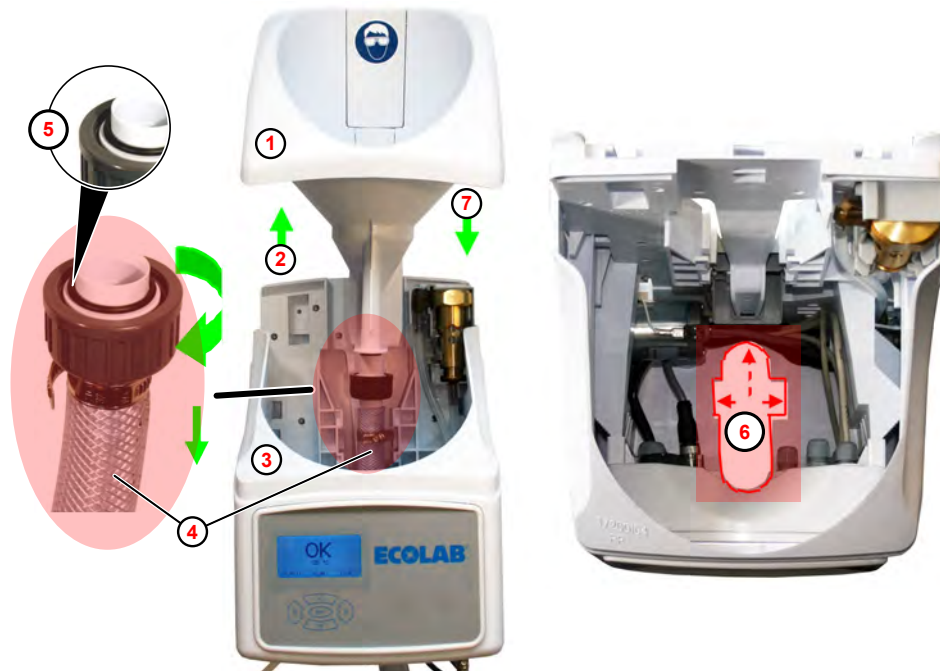

Fig. 16: Removing the funnel
1. ➤ Pull funnel (Fig. 16 , ①) upwards and out ② .
2. ➤ Pull the funnel and outlet hose ④ upwards out of the housing.
4. ➤ Clean the O-ring ⑤ by hand.
6. ➤ Hold all the connecting leads in the housing away from the funnel shaft ⑥ .
7. ➤ Push the funnel back into the housing ③ from above ⑦ .
8. ➤ Screw the outlet hose ④ back onto the funnel until hand-tight.